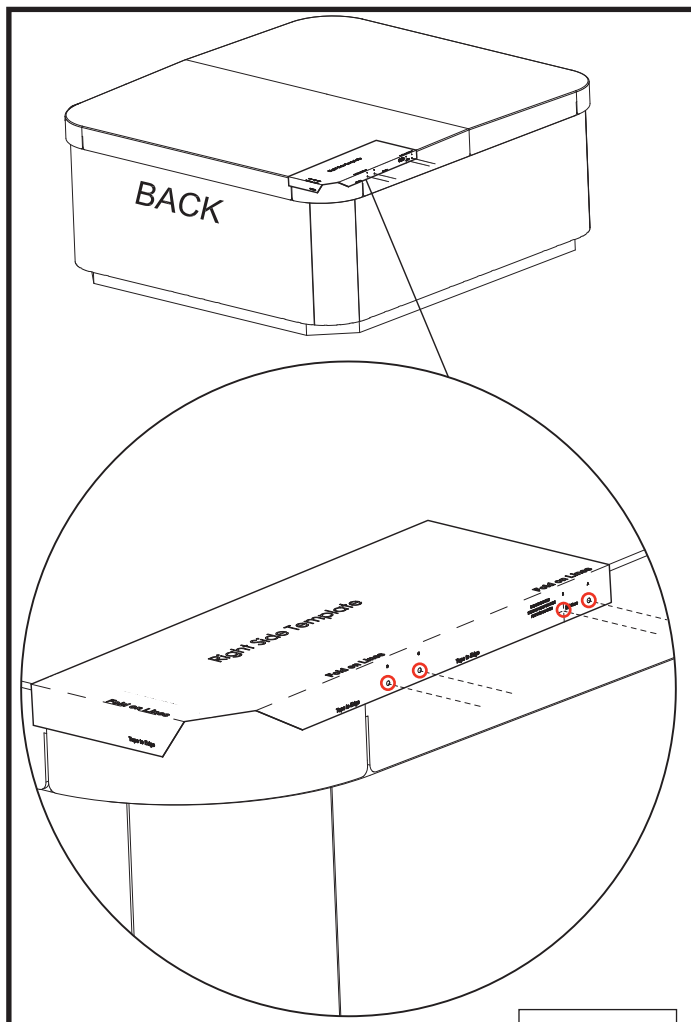

Figure 3.1
1. Find Template (C) and unfold.
2. Place Template (C) on the Right side of the cover as shown with the side marked "Right Side Template" facing upward (Figure 3.1).
3. Fold the tabs of the template where marked and tape down to the rear and side of the spa cover (Figure 3.1).
4. Use a marker to mark all holes on cover as indicated on Template (C) (Figure 3.1).
5. Pre-drill holes on all previously marked locations with a 1/8" (3 mm) drill bit at a depth of 1/2" (12.5 mm) (Figure 3.1).